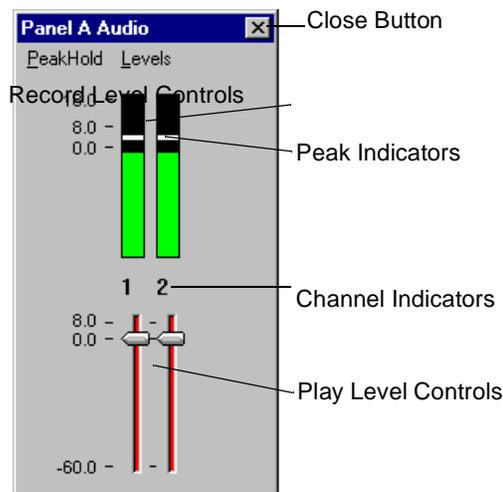

Figure 88. Audio Monitor dialog box
2. Choose **Window | Audio Monitor**. The Audio dialog box appears, as shown in Figure 88. There are only two channels in this example, but up to 32 channels are possible if the necessary boards are installed.